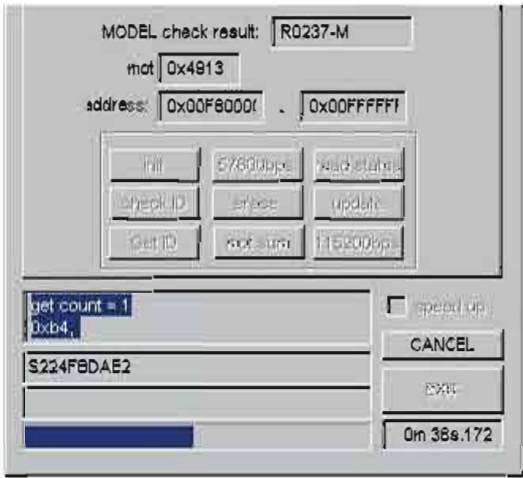

Fig. 3
7. Click [E.P.] to start writing. (Fig. 3)
8. When writing is completed, "Program Finished!" is displayed. (Fig. 3)
Click [OK]. (Fig. 3)
9. Click [EXIT] to end "DSP_FLASHER_v3.0_M16C80.exe". (Fig. 3)
(Fig. 3)
[OK]をクリックします。(Fig. 3)